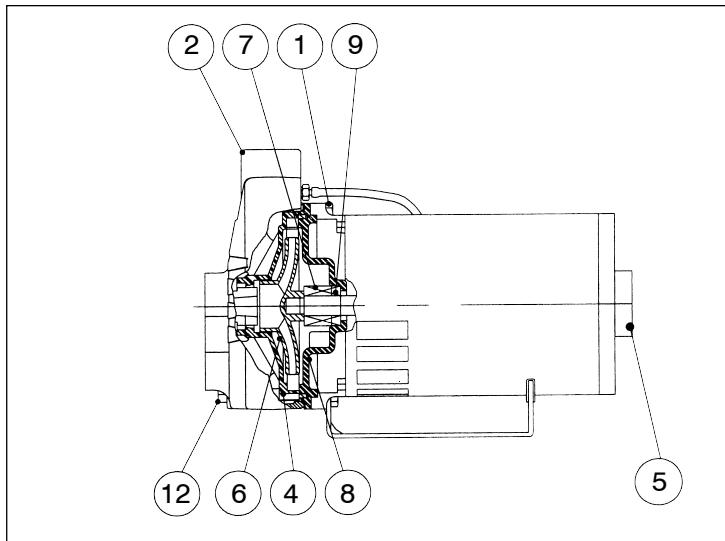

Fig. 4
b) **Replacing Mechanical Seal: (See Fig. 4)**